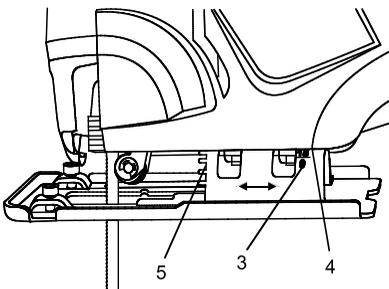

Fig. 6
2. Bevel angles (3) are marked on a scale located on the side of the sole plate (Fig. 6).
3. Slide the sole plate back. Align the edge of the motor housing (4) with the desired angle mark (3) on the side of the base, then slide the sole plate forward to engage the notches (5) into the motor housing pin.